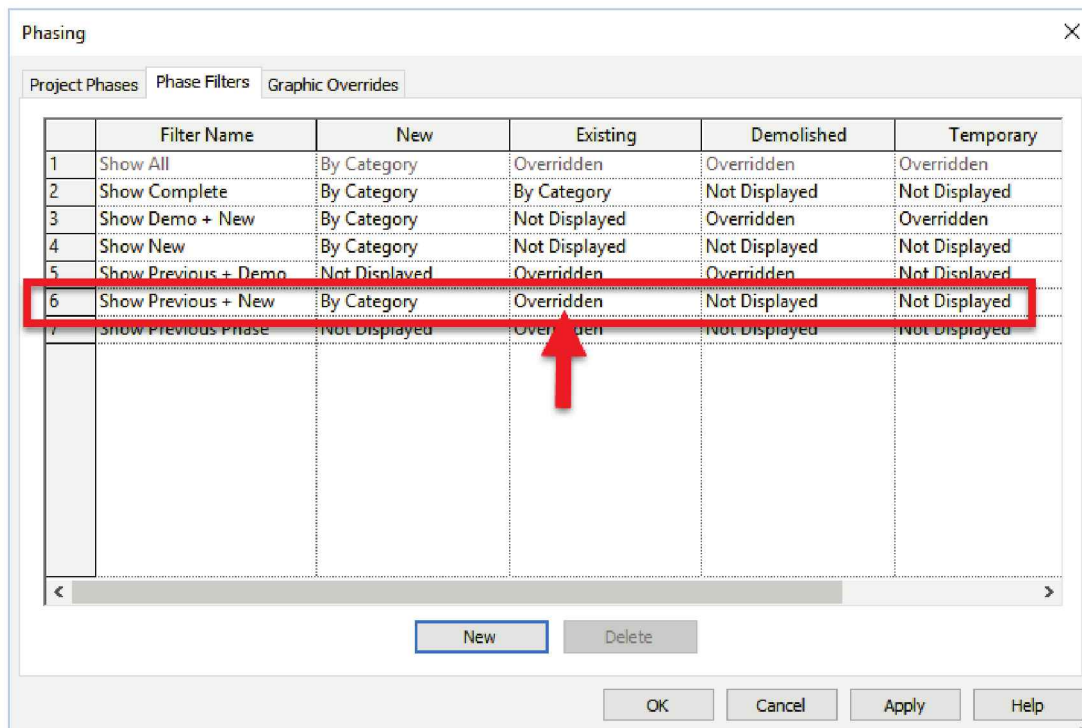

FIGURE 17-3.4 Phase Filters tab; Phasing dialog
11. Select the **Phase Filter** tab (Figure 17-3.4).